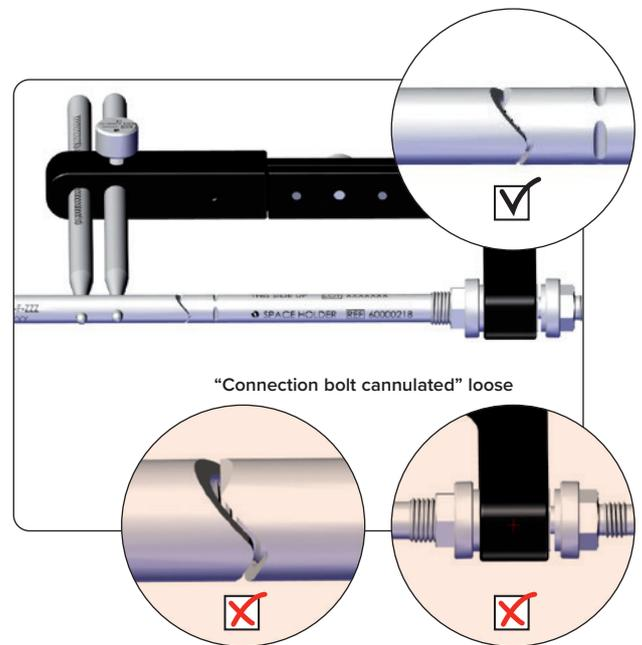

Fig. 54 Connection bolt loose
4. The Fitbone is loosely fixed to the “connection bolt cannulated”. (**Fig. 54**)